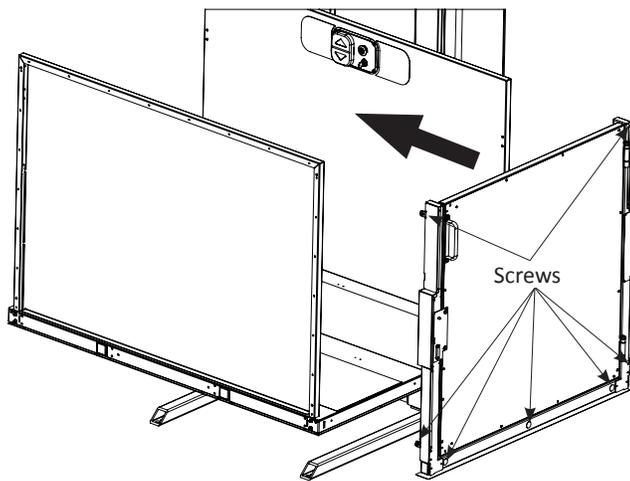

Figure 4-4
2. Install four (4) ¼" -20 x ⅝" screws through tabs in gate frame into threaded holes on platform panels. *See Figure 4-4.*